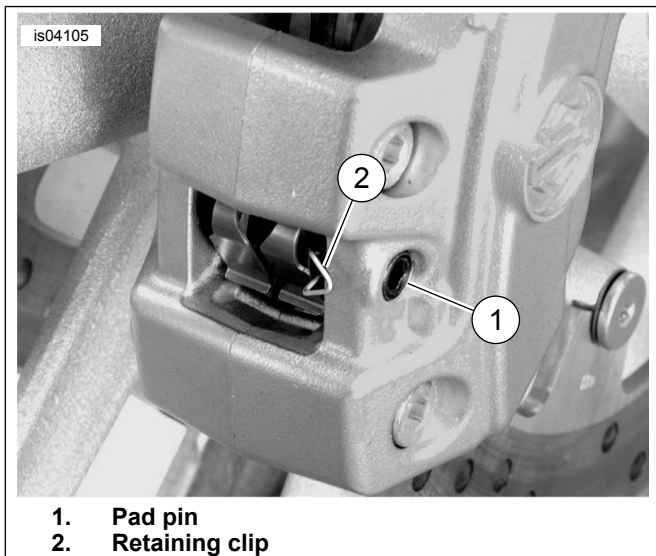

Figure 2. Front Caliper Pad Pin
- a. Remove the screen cover (5) from the caliper.
- b. See Figure 2. Note the orientation of the brake pads, and remove the retaining clip (2), pad pin (1) and brake pads from the caliper. *Also note the position of the brake pads at removal, so they can be installed back in the same location.*
5. See Figure 2. Install the **new** pad pin (1) through the inner and outer brake pads. Tighten to 8.5–11.5 N·m (75–100 in-lbs).
6. Install the **new** retaining clip (2) onto the pad pin.